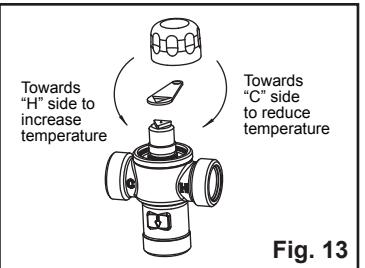

Fig. 13
- 4C** **Thermostatic Mixing Valve** (Fig. 13) To adjust the mixed outlet temperature of the valve, remove the cap to gain access to the adjusting spindle. The spindle should be rotated towards the "C" side to reduce the temperature and towards the "H" side to increase the temperature - until the desired set point is reached.